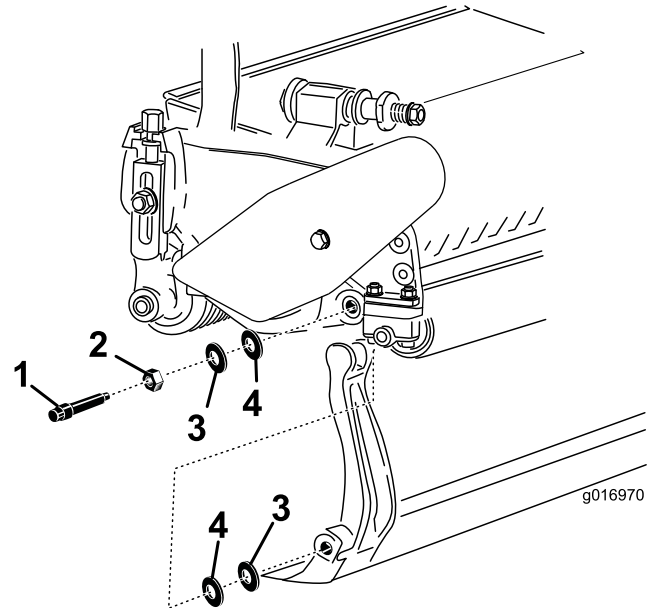

Figure 20
Account for the 2 nylon and 2 stamped steel washers on each end of the bedbar (Figure 20).
3. Position a nylon washer on each side of the side plate boss. Place a steel washer outside each of the nylon washers (Figure 20).